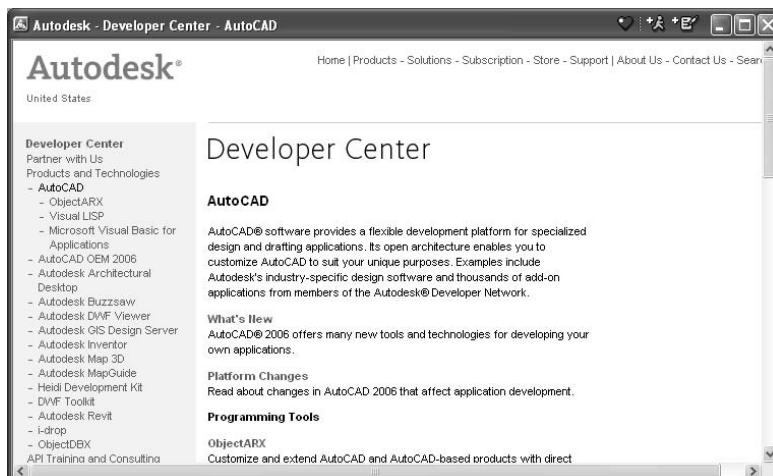

FIGURE BC.6: The AutoCAD section of the Autodesk Developer Center
- Clicking Online Developer Center takes you to the AutoCAD section of the Developer Center (see Figure BC.6). From here, you can find out about AutoCAD and other Autodesk products as well.